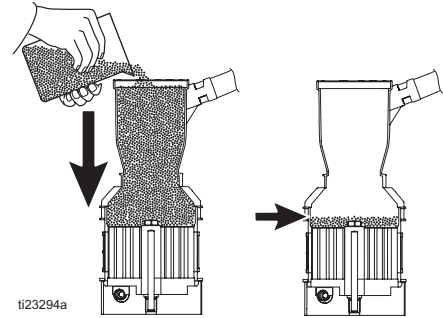

FIG. 23
6. When finished dispensing for the day, dispense into a waste container until the material level is down to the melter core. See FIG. 23.